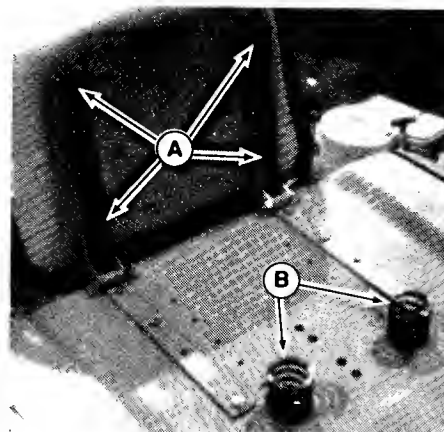

Figure 20. Seat Adjustment
1. Lift up the seat as shown in figure 20.
3. The springs (B) can be moved to different holes in the deck for maximum riding comfort. A lighter person will want to